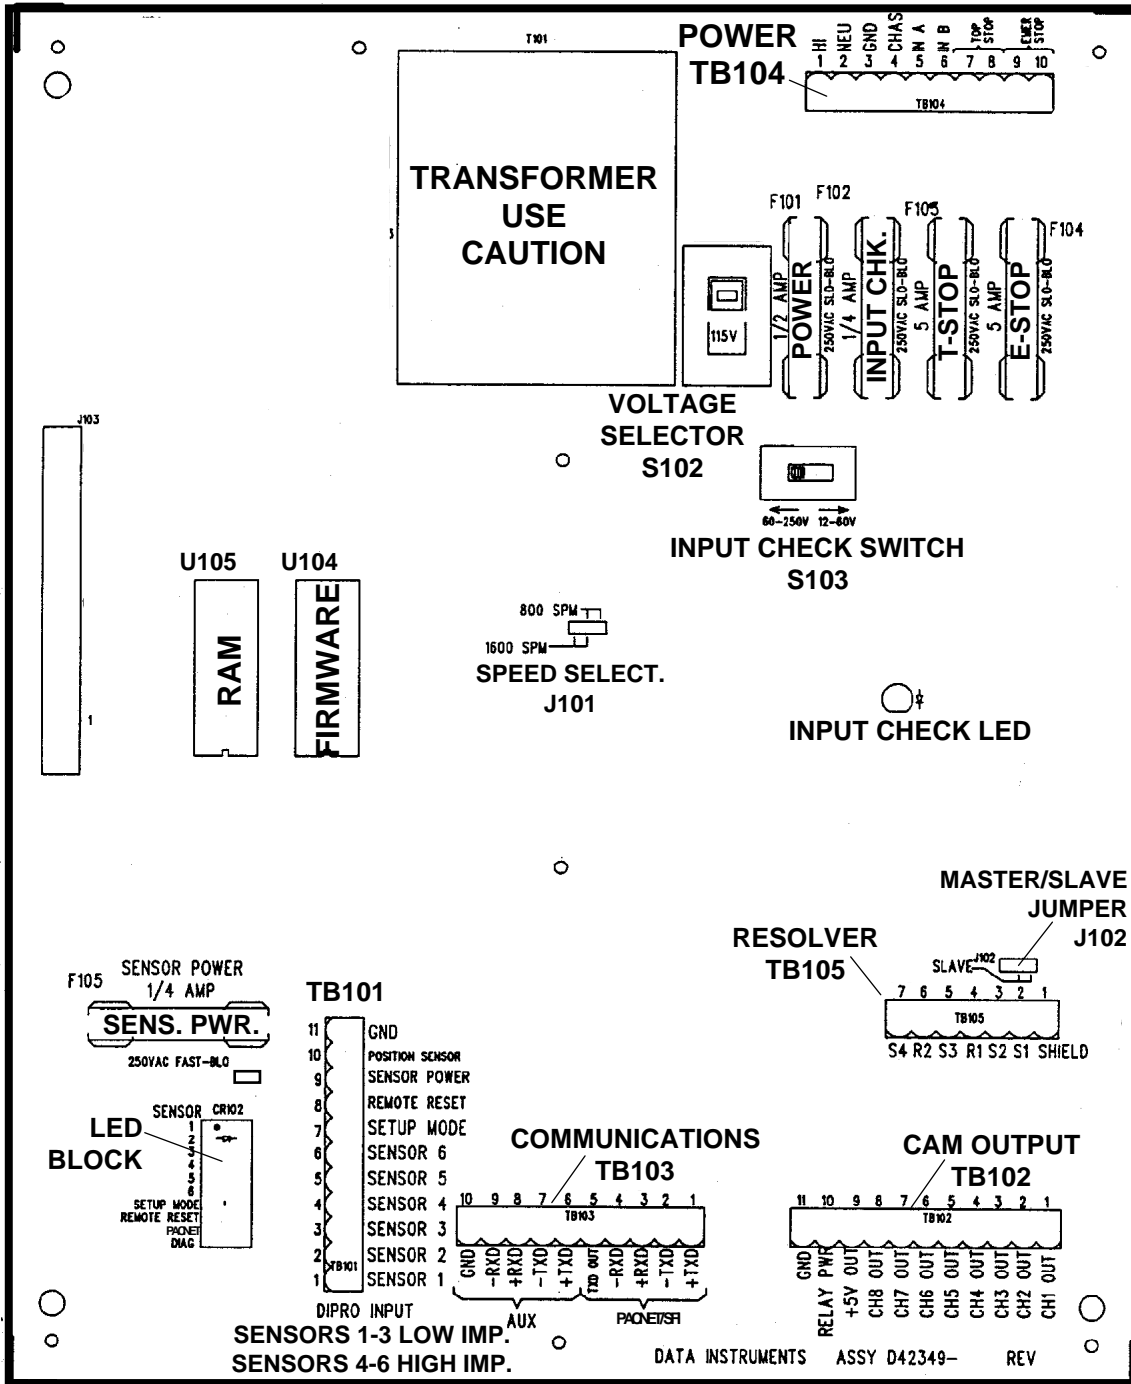

Figure 2-1. Location of components on DiPro 1500 processor board
3. Locate the firmware chip located at U104 on the DiPro 1500 processor board (refer to Figure 2-1). Notice that this firmware chip has a label on it.
2. Locate terminal TB103 on the DiPro 1500 processor board (see Figure 2-1). There may be a plastic plug at pin 5. If so, remove it from TB103. Also find the RS-232 port on your feed. Refer to your feed manual if necessary.